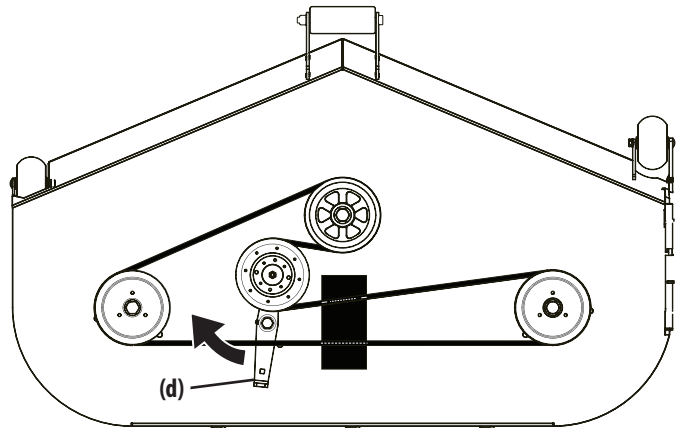

Figure 40
4. Using a 1/2" (12.7 mm) drive insert the end into the 1/2" (12.7 mm) square opening in the deck idler assembly (d) and rotate the deck idler assembly clockwise (Figure 40).
6. Route the new belt as shown in Figure 40. Then reinstall the deck and PTO belt as instructed on page 27.